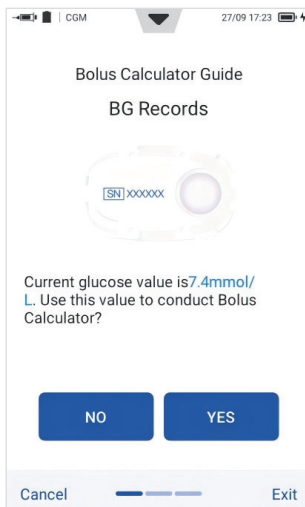

Figure 87
1. If a continuous glucose monitoring product has been paired, it will be asked whether to conduct bolus calculator based on the current glucose value, as shown in Figure 87. Select "Yes" to enter step 2, and "No" to edit the finger-stick blood glucose value.